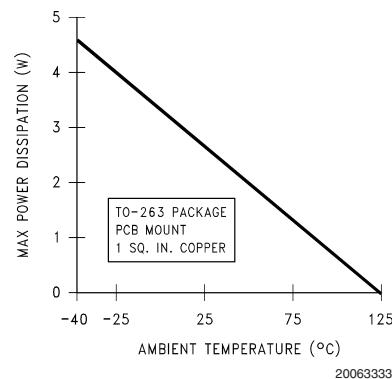

FIGURE 4. Maximum power dissipation vs ambient temperature for TO-263 package
*Figure 4* shows the maximum allowable power dissipation for TO-263 packages for different ambient temperatures, assuming  $\theta_{JA}$  is 35°C/W and the maximum junction temperature is 125°C.